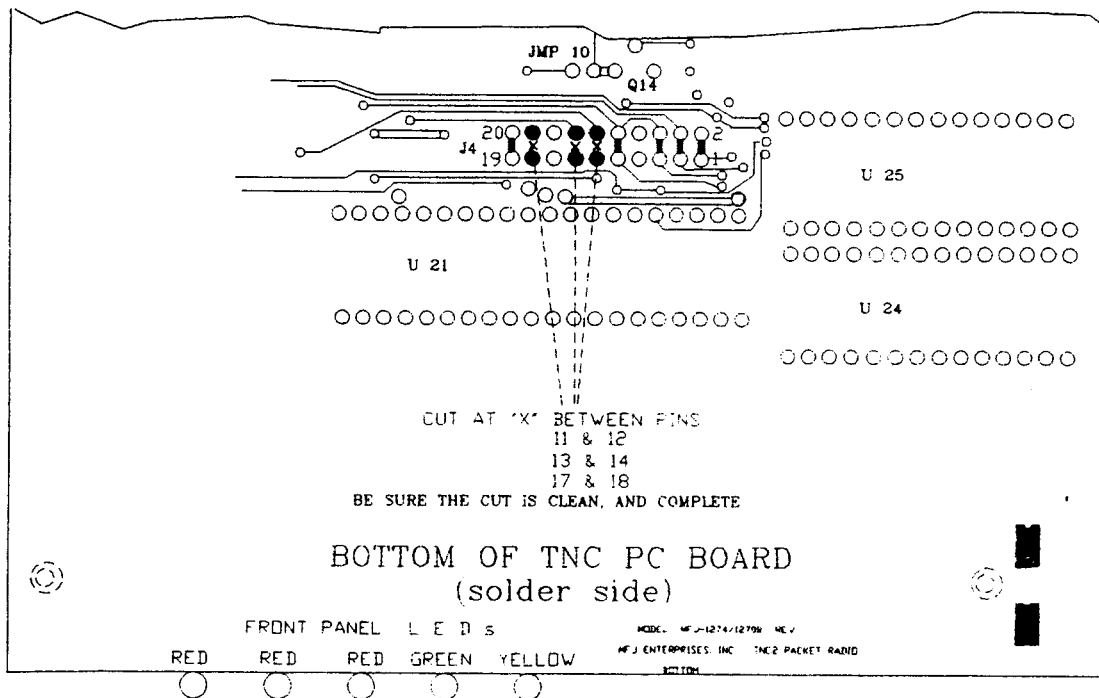

FIGURE 1
A. INSTALLATION OF THE 20 PIN HEADER: Refer to FIGURE 1
The drawing at FIGURE 1 will help you locate the header traces to cut. Use "solder-wick" or a solder vacuum device to remove any solder which may be covering any of the 20 pin header holes. Cut the traces between the three (3) points shown in the illustration.
For a more detailed drawing, see FIGURE 1.